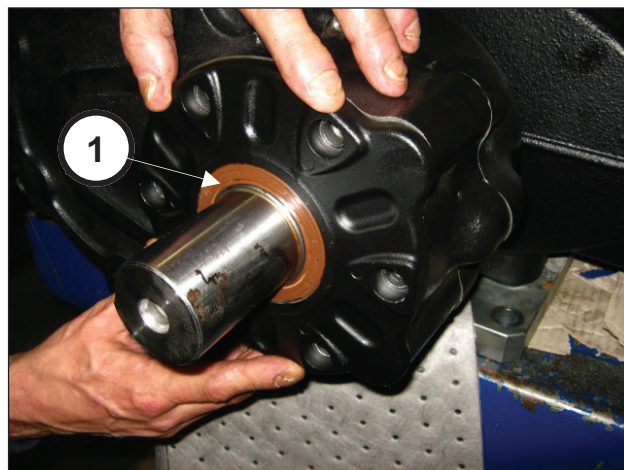

Fig. 87
To prevent damage to the seal ring, take special care when inserting the seal ring on the pinion (pos. ①, Fig. 87).